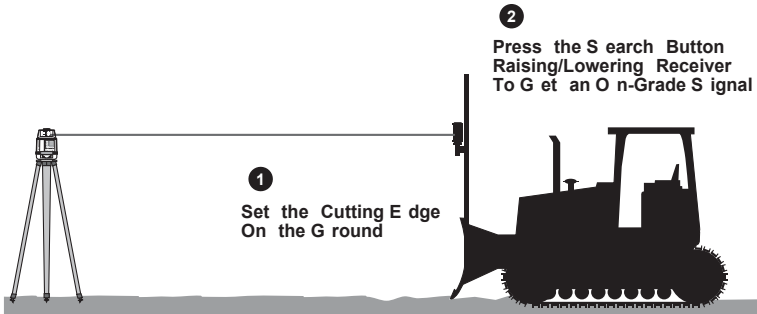

Figure 4-2. Adjust Laser Height to Center Receiver
3. Set both sides of the cutting edge on the ground. Press the **Survey/Search** button to have the receiver search for and lock onto the laser transmitter for an on-grade reading (Figure 4-2 on page 4-3).